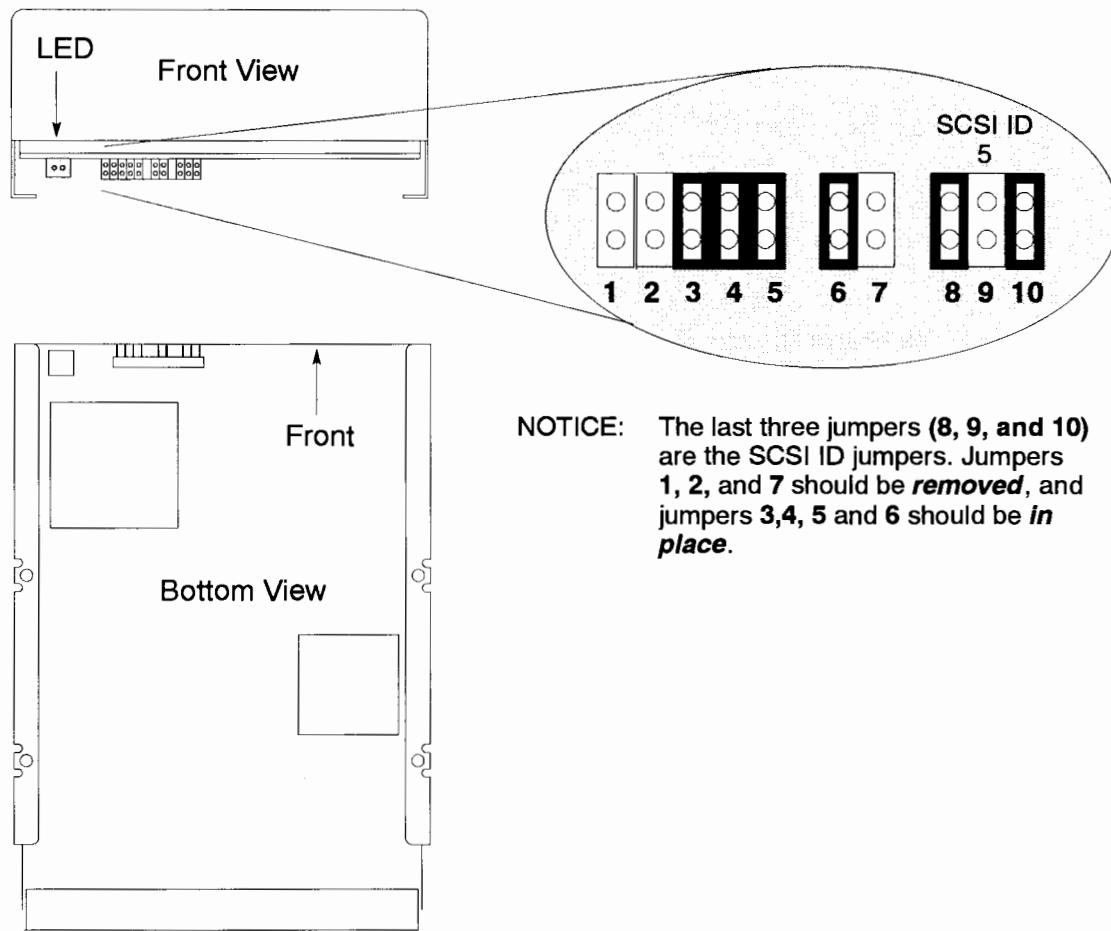

Figure B-34. Hewlett Packard 1-GB Disk Drive Jumpers
- For a Hewlett Packard 1-GB drive, refer to Figure B-34.